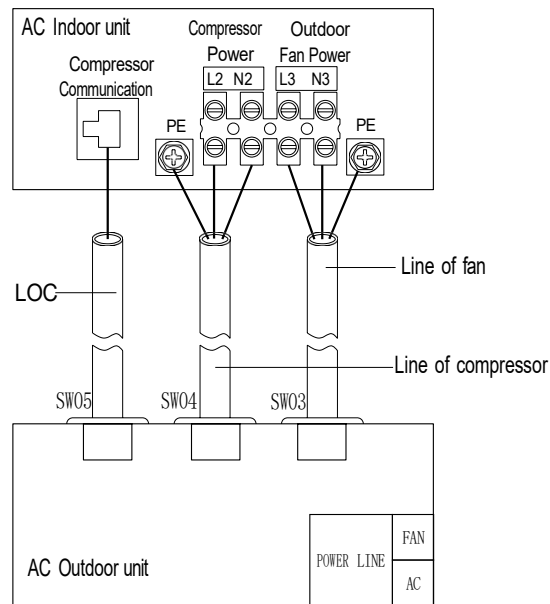

Figure 2-35 The outdoor unit power supply wiring diagram
1. Connect the three cables of the top cover, cover the cable through the hole, and connect the cable to the corresponding terminal of the outdoor unit according to the line end of the cable, as shown in Figure 2-35.